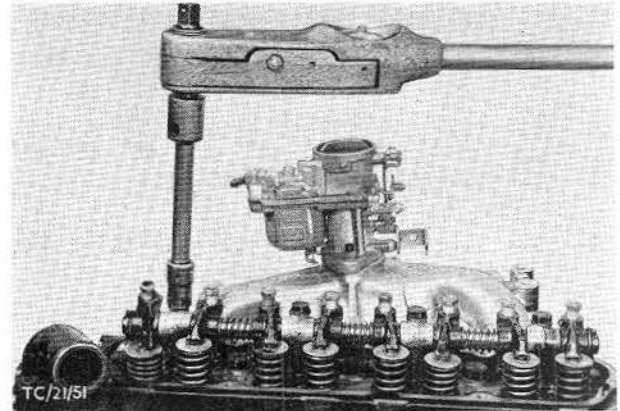

Fig. 70. Torque rocker shaft bolts as specified in Technical Data.
10. Lubricate both ends of push rods and place them in push rod sockets. Fit rocker shaft, guiding rocker arm adjusting screws into push rod sockets. Insert rocker shaft bolts and torque them as specified in Technical Data, Fig. 70.